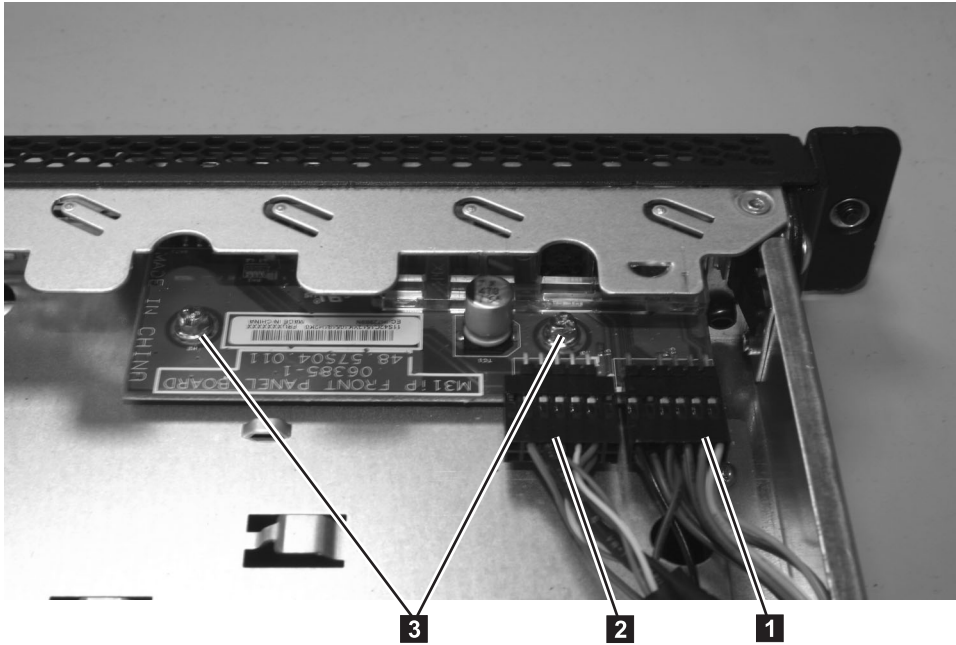

Figure 212. SAN Volume Controller 2145-8A4 operator-information panel
5. Remove the screws (**3** in Figure 212 on page 218) that secure the operator-information panel to the CD/DVD bay housing.
7. Disconnect the light-panel cable **1** and the USB cable **2** from the operator-information panel board, shown in Figure 212.